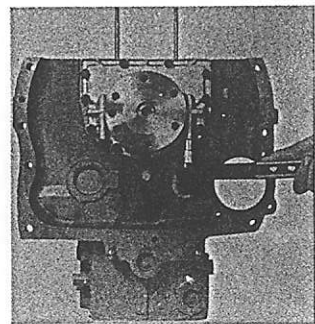

Fig. 89—Rear view of engine block showing oil seal retainer installed.
90. The asbestos rope type rear oil seal is contained in a two-piece seal retainer attached to rear face of engine block as shown in Fig. 89. The seal retainer can be removed after